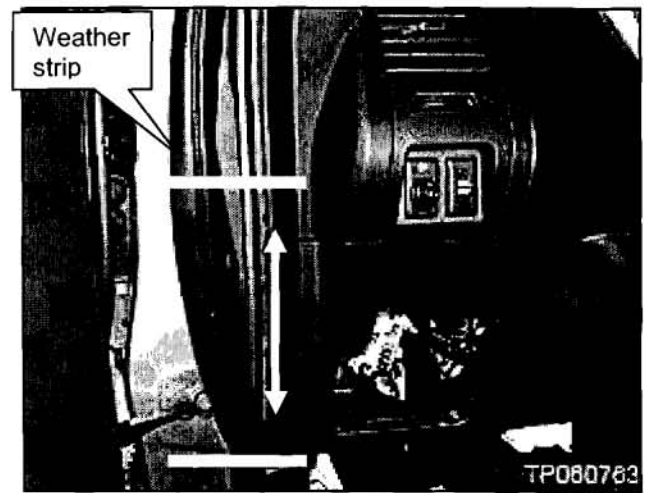

Figure 7
9. Pull the driver's door weather strip loose in the area shown in Figure 7.